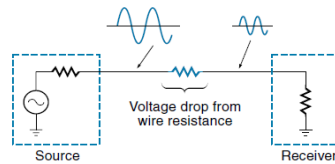

Figure 7.23 Signal voltage is reduced from wire resistance.
- Figure 7.23 illustrates this situation.